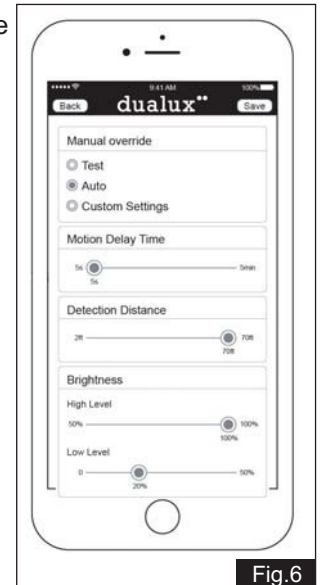

Fig.6
2. For best performance, install fixture at least 8 feet above the ground. At such a height, the fixture will provide a detection distance of up to 70 feet at 77 degrees Fahrenheit. (See Fig.6)